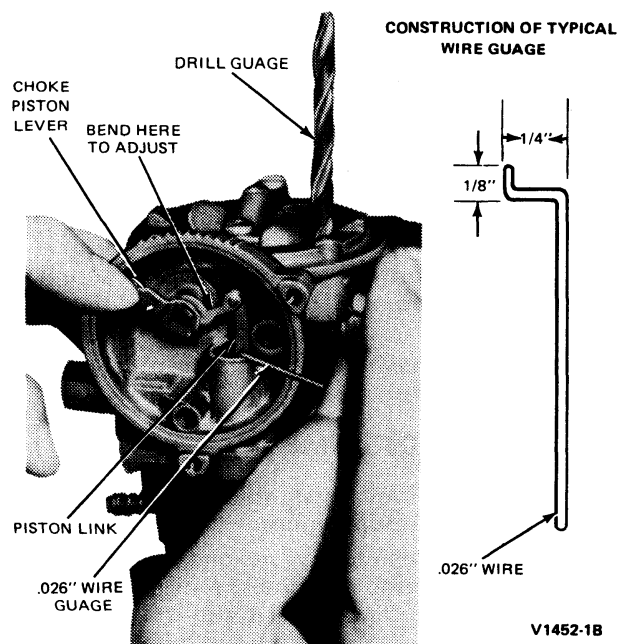

FIG. 5 Pulldown Clearance Adjustment—Model YFA 1-V Carburetor
choke housing. Rotate the choke piston lever counterclockwise until the gauge is snug in the piston slot (Fig. 5).
3. Exert a light counterclockwise pressure on the choke piston lever to hold the gauge in place, then use a drill with a diameter equal to the specified pulldown clearance between the lower edge of the choke plate and the carburetor bore to check clearance (Fig. 5).